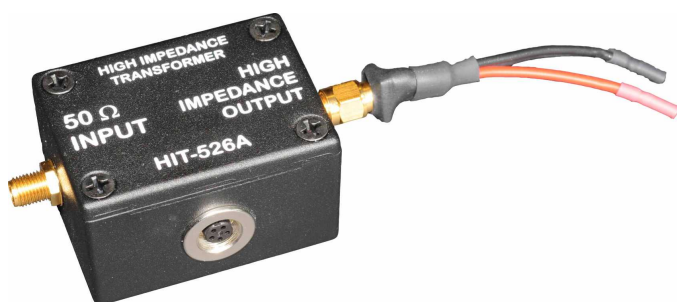
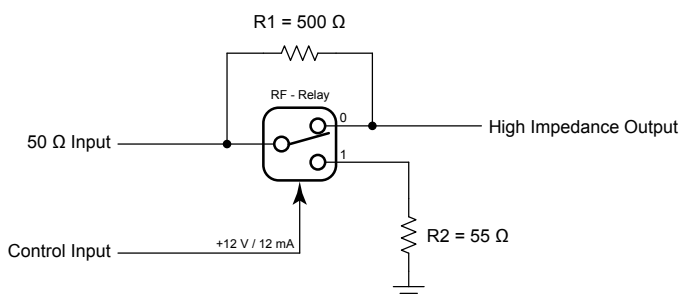

Figure 1: HIT-526A with SMA-to-cable interface (optional) at high impedance output.
Figure 2: HIT-526A schematic diagram.
The HIT-526A (Fig. 1) can be used for 526 Ω high impedance TLP measurements. If the RF switch (Fig. 2) is in the position 0 the resistor R1 is short circuit, R2 is not used, and the HIT-526A works as a through connection. If the RF switch is in the position 1 the pulse input is matched to 50 Ω with R1 and R2 plus DUT connected in parallel to ground. This mode is used for 526 Ω high impedance TLP measurements.
If the SMA-to-cable interface is used (Fig. 1), the bandwidth is limited and rise times ≥ 5 ns should be used in the TLP setup in order to avoid ringing due to the parasitic inductance. If a SMA 50 Ω line is connected to the high impedance output, the typical capacitive load of 1 pF/10 mm of the transmission line together with the 526 Ω output impedance will limit the rise time of the pulse.
- Keep cable length from the current sensor output to the DUT as short as possible since a 50 Ω transmission line adds 1 pF per 10 mm, which may deteriorate the measurement result. For PCB or packaged device measurements the short cables (Fig. 1) can be used for low parasitics interconnections.